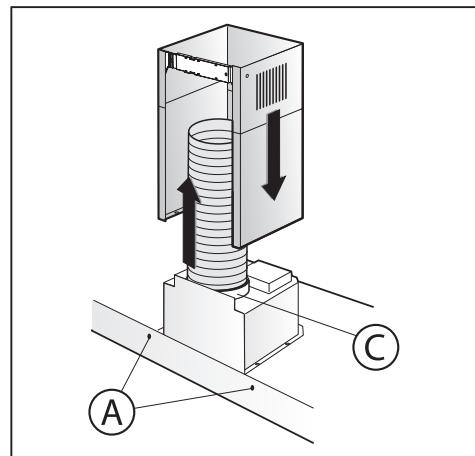

Fig.3
- When the appliance has been adjusted, definitely fix the hood using the screws **A** (Fig.3).
- Connect the flange **C** to the air exhaust hole using a connection pipe (Fig.3).